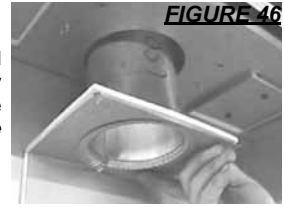

FIGURE 46
3. From inside the firebox, insert the 4" flue pipe assembly through the heat shield and out through the retaining ring. Secure the assembly to the rear and top of the unit using 4 #8 x ¾" Hex Head Wildrill screws supplied. Do not over tighten. The gasket needs only to be snug against the firebox. FIGURE 46.